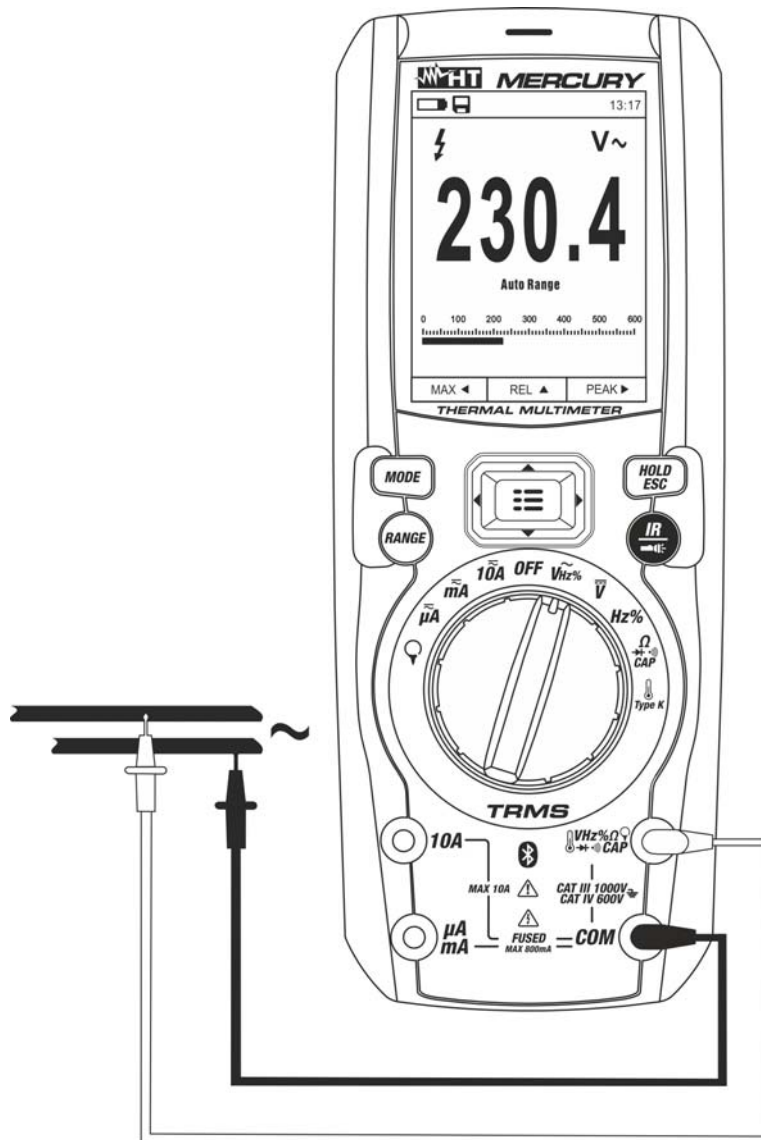

Fig. 22: Use of the instrument for AC voltage measurement
3. Position the red lead and the black lead respectively in the spots of the circuit to be measured (see Fig. 22). The display shows the value of voltage.